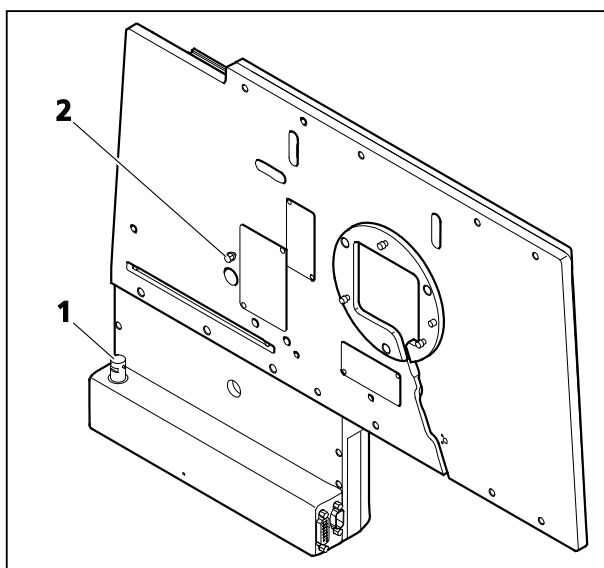

Fig. 2 Removing the transport locking screw
- Remove the shipping screw (Fig. 2/2) on the underside of the respective stage and keep it for later use.
Only the measuring stage S mot. CAN has a trigger socket (Fig. 2/1) on its underside.
A device for transmitting a trigger signal can be connected to the trigger socket (Fig. 2/1) of measuring stage S mot. CAN.